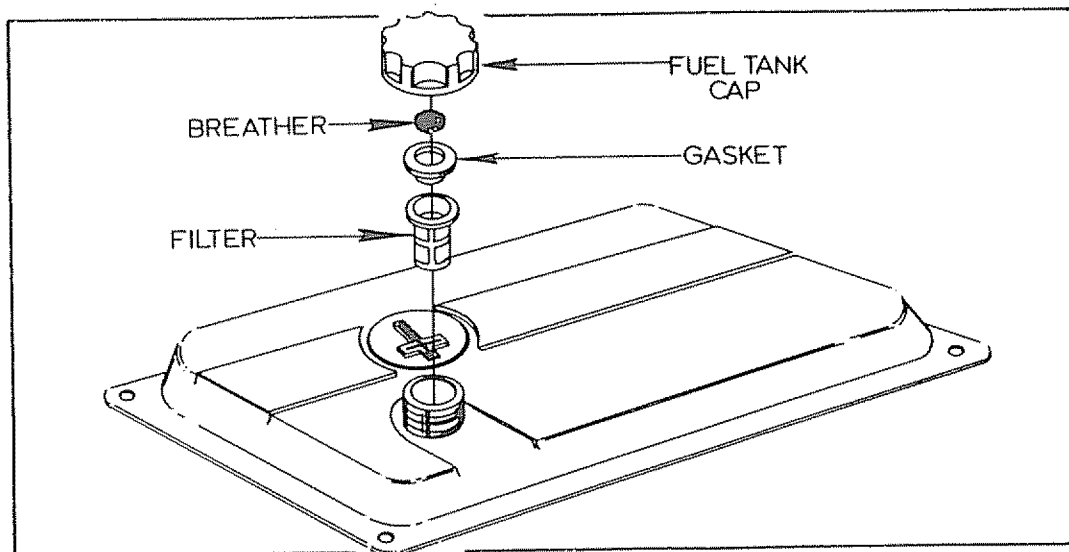

Figure 3-4. Fuel Tank Cap, Breather, Gasket and Filter
3.4- CLEAN FUEL SCREEN (Figure 3-4)